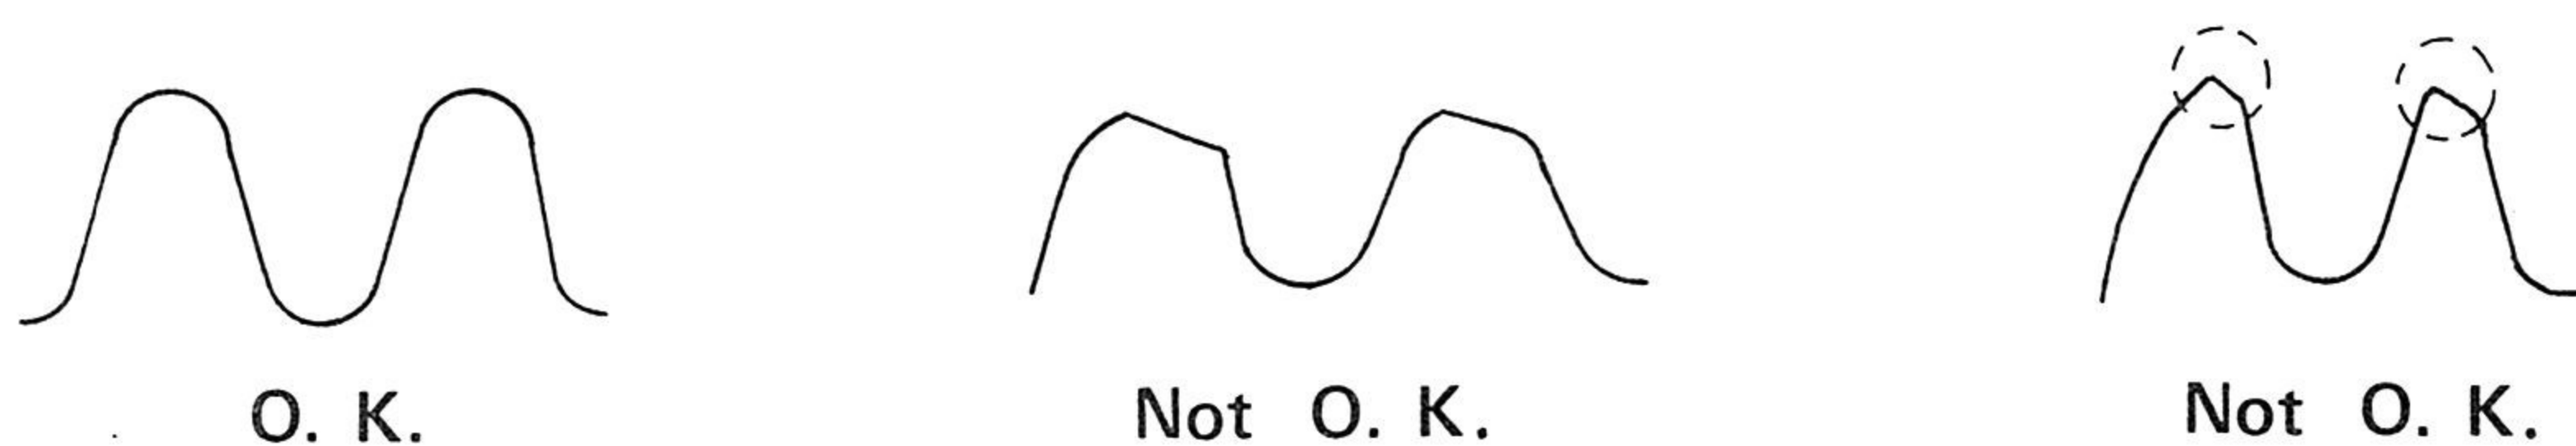

Fig. 3
- Ⓕ Adjust T7 core for minimum clipping and maximum output with 1mV, 460KHz, 400Hz 80% modulated input signal. (shown in Fig. 3)